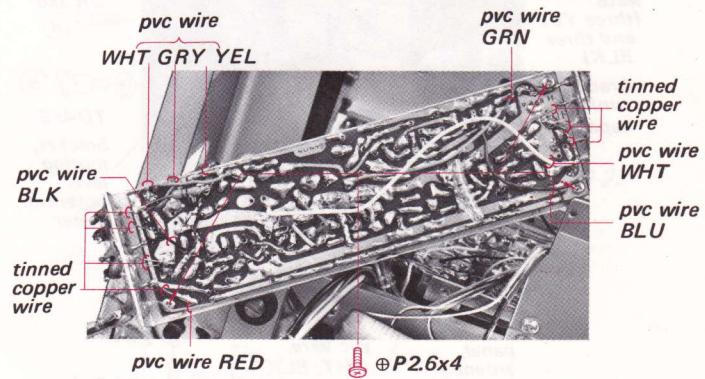

Fig. 2-14
**Note:** When replacing the circuit board, remove the three screws shown in Fig. 2-14 and unsolder all the wires.